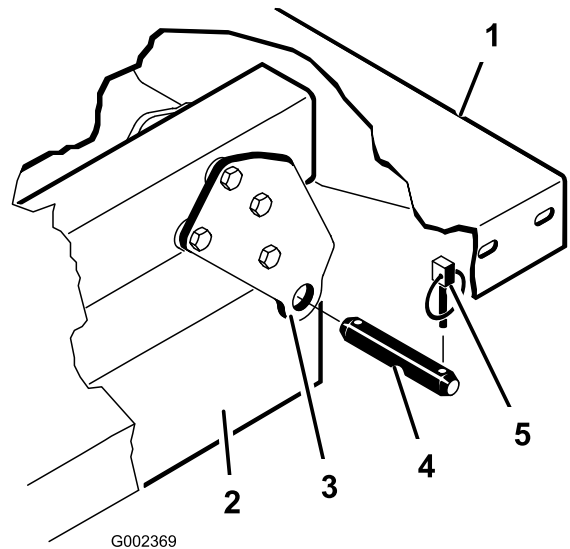

Figure 12
Note: Assure rear pivot plates are bolted to the bed frame/channel so that lower end angles to the rear (Figure 12).
2. Carefully set bed onto vehicle frame aligning rear bed pivot plate holes with holes in rear frame channel and install (2) clevis pins and lynch pins (Figure 12).
3. With bed lowered, secure each cylinder rod end, to appropriate slots in bed mounting plates with clevis pin and lynch pin. Insert clevis pin from outside of bed with lynch pin toward outside (Figure 12). Rear slots are for full bed installation and front slots are for 2/3 bed installation.